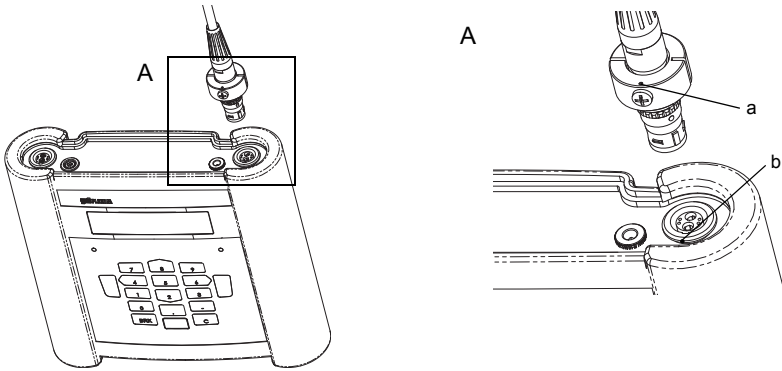

Fig. 7.9: Connection of the transducers (FLUXUS F608**-F2)
- Insert the connector of the transducer cable into the socket of the transmitter. The red point (a) on the connector has to align with the red marking (b) on the socket (see Fig. 7.9).